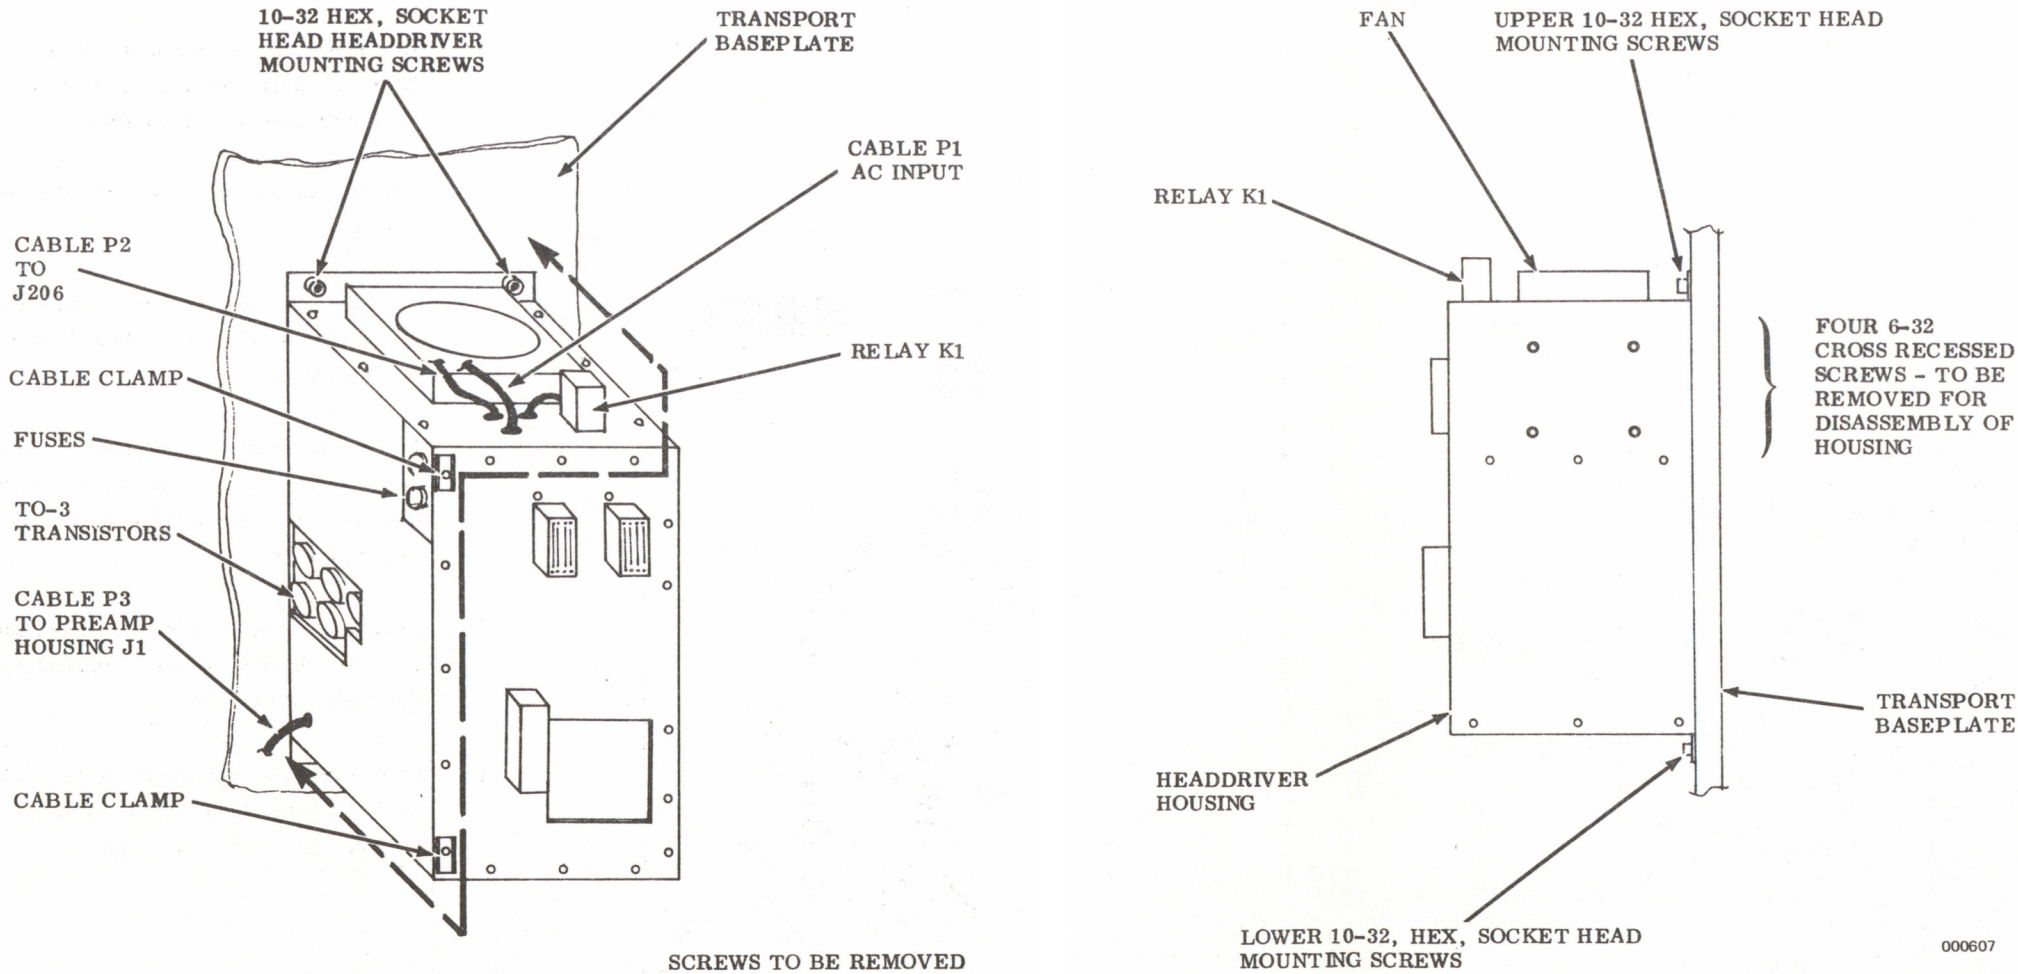

Figure 10-5. Headdriver Housing - Disassembly Details - Extender
Reference Figure 10-5. To remove the headdriver housing assembly from the transport baseplate, proceed as follows:
- f. Remove the two lower hex socket head screws which hold the headdriver housing to the transport baseplate. (Refer to Figure 10-5.)
- i. Referring to Figure 10-5, remove the 13 6-32 screws along the perimeter shown, i.e., two to the right of the fan, three on the top edge of the mother board, five on the left side of the mother board (the two which hold the cable clamps have already been removed in step e - they are 0.5" in length whereas the balance of the screws
- j. Referring to Figure 10-5, remove the four 6-32 cross recessed screws that form a square at the top of the right side panel.
- c. Replace the 13 screws and two cable clamps previously taken out during the disassembly of the housing unit (see Figure 10-5). The two 6-32 screws holding the cable clamp are 0.5" in length; the balance are 0.38" in length.